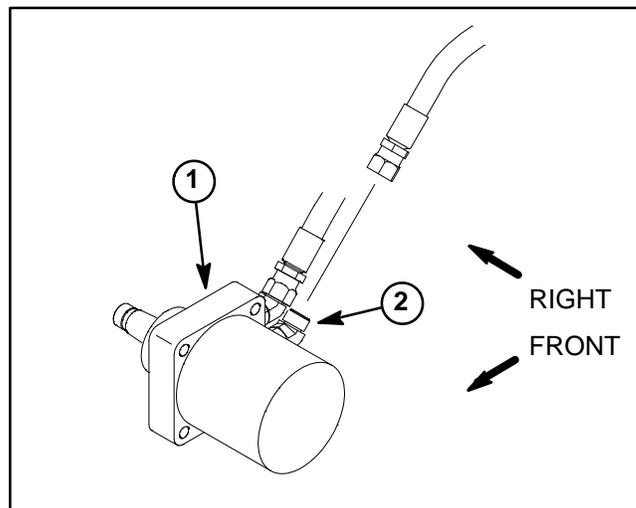

Figure 46
3. Thoroughly clean junction of hydraulic hose and lower fitting on rear wheel motor (Fig. 46). Disconnect hose from lower fitting on wheel motor.